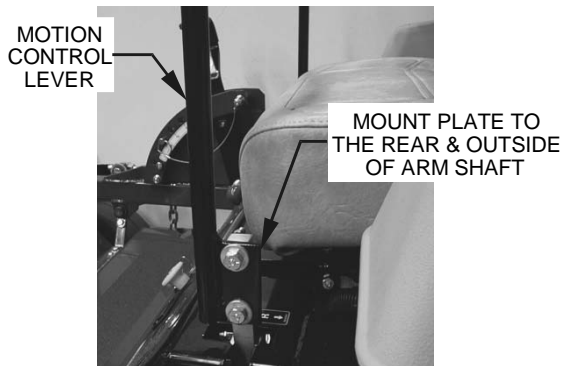

FIGURE 4
3.7.1 Loosen and remove the two (2) 3/8" x 1" bolts and spring disc washers which attach the motion control levers to the control arm shafts for shipping and the two (2) 3/8" x 1" bolts and spring disc washers which are screwed into the control arm shafts.
- a) Install the left motion control lever onto the control arm shaft (See Figure 4) on the left side of the console. Place the lever (with the mounting plate towards the rear) on the **outside** of the control arm shaft and secure with the bolts and washers. Position the lever so the bolts are in the center of the slots on the lever mounting plate and tighten until snug. Repeat on opposite side of unit.